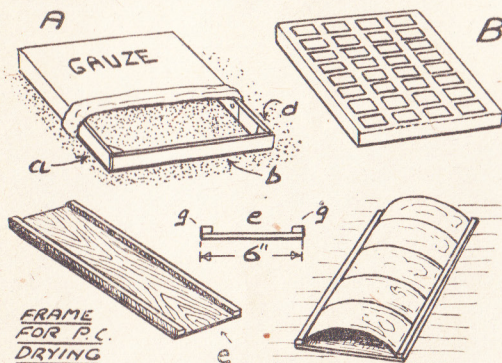

Fig. 1—Frames and materials
The ideal condition is to get air, either warmed or at usual room temperature, all round the prints as they lie in a horizontal position and to this end fine gauze or butter muslin is a great help. This is stretched over a simple frame as (A) in Fig. 1, and the prints are laid out to dry on the taut material, as (B).
Postcards drying naturally tend to acquire a bad curve which is due to the stiffness of the material and is very difficult to get out. Curling can be prevented, however, by using the frame shown in the lower sketches of Fig. 1. This is a length of board (e), 6 ins. wide and $17\frac{1}{2}$ ins. long which is supplied with the lips (g)—two thin strips of $\frac{1}{4}$ in. wide wood.